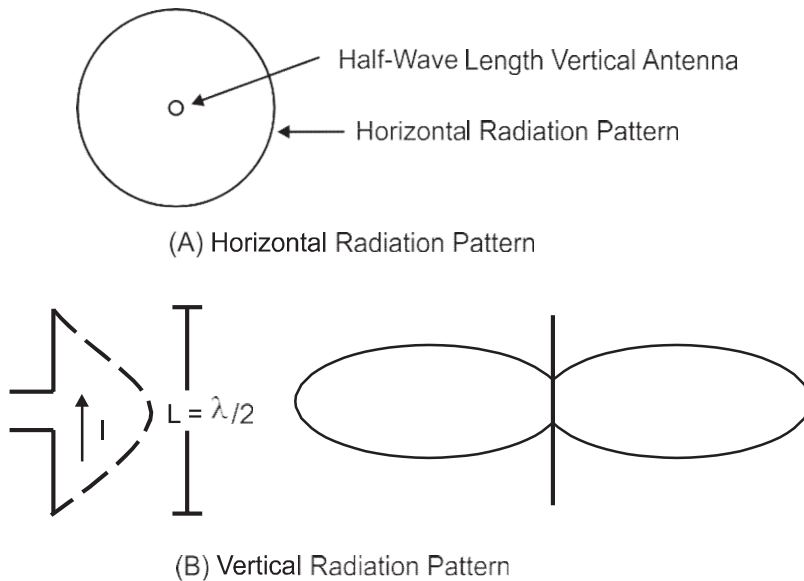

Figure 11.9: Horizontal and vertical patterns of a half-wave dipole antenna
Figure 11.9 (A) shows the top view of the horizontal pattern produced by a half-wave dipole antenna. Here, the dipole antenna is located in the centre. Horizontal pattern is a circular pattern giving signal levels in all azimuthal directions. Interpretation of horizontal pattern helps in knowing the field strength received along various radials while plotting coverage contours of any radio station. Figure 11.9 (B) shows the vertical pattern of a half-wave dipole. The main lobe of the vertical pattern looks like the number '8' spread horizontally. As can be seen in the figure, radiation along the vertical axis is practically nil. Vertical pattern helps in understanding the formation of side lobes and taking necessary action in taking care of nulls in the coverage area.